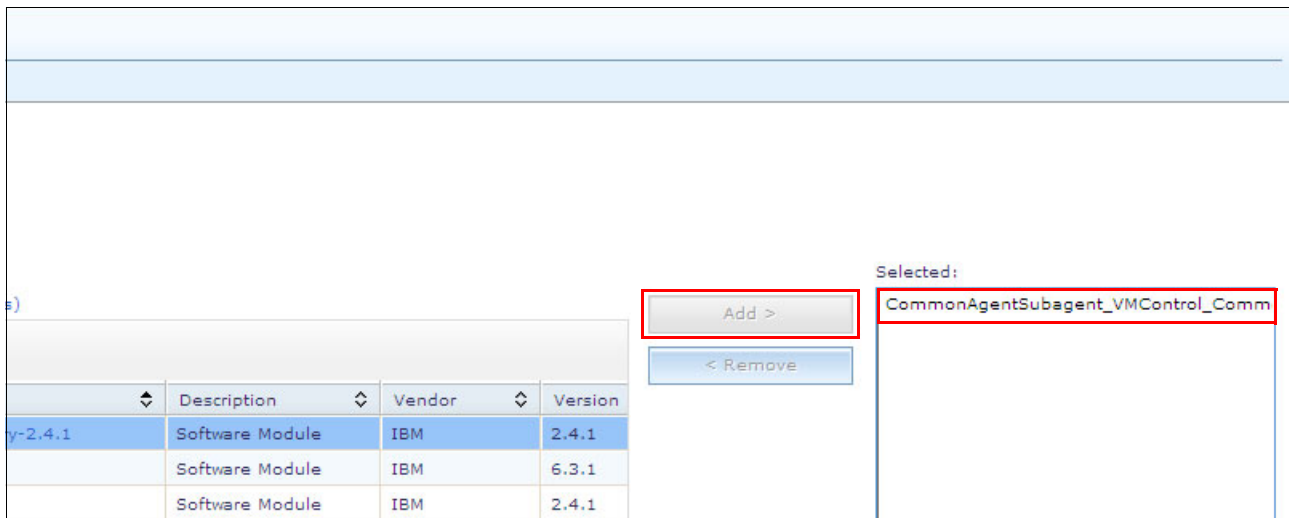

Figure 10-88 Adding the agent
3. Click **Add** as shown in Figure 10-88.